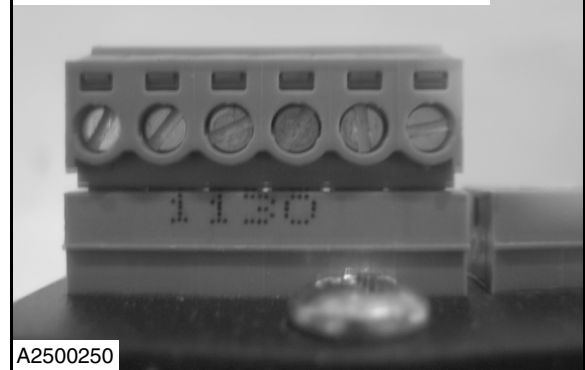

Figure 44
- Hexadecimal number located on the transmitter unit in the bottom bar (See Figure 44.)